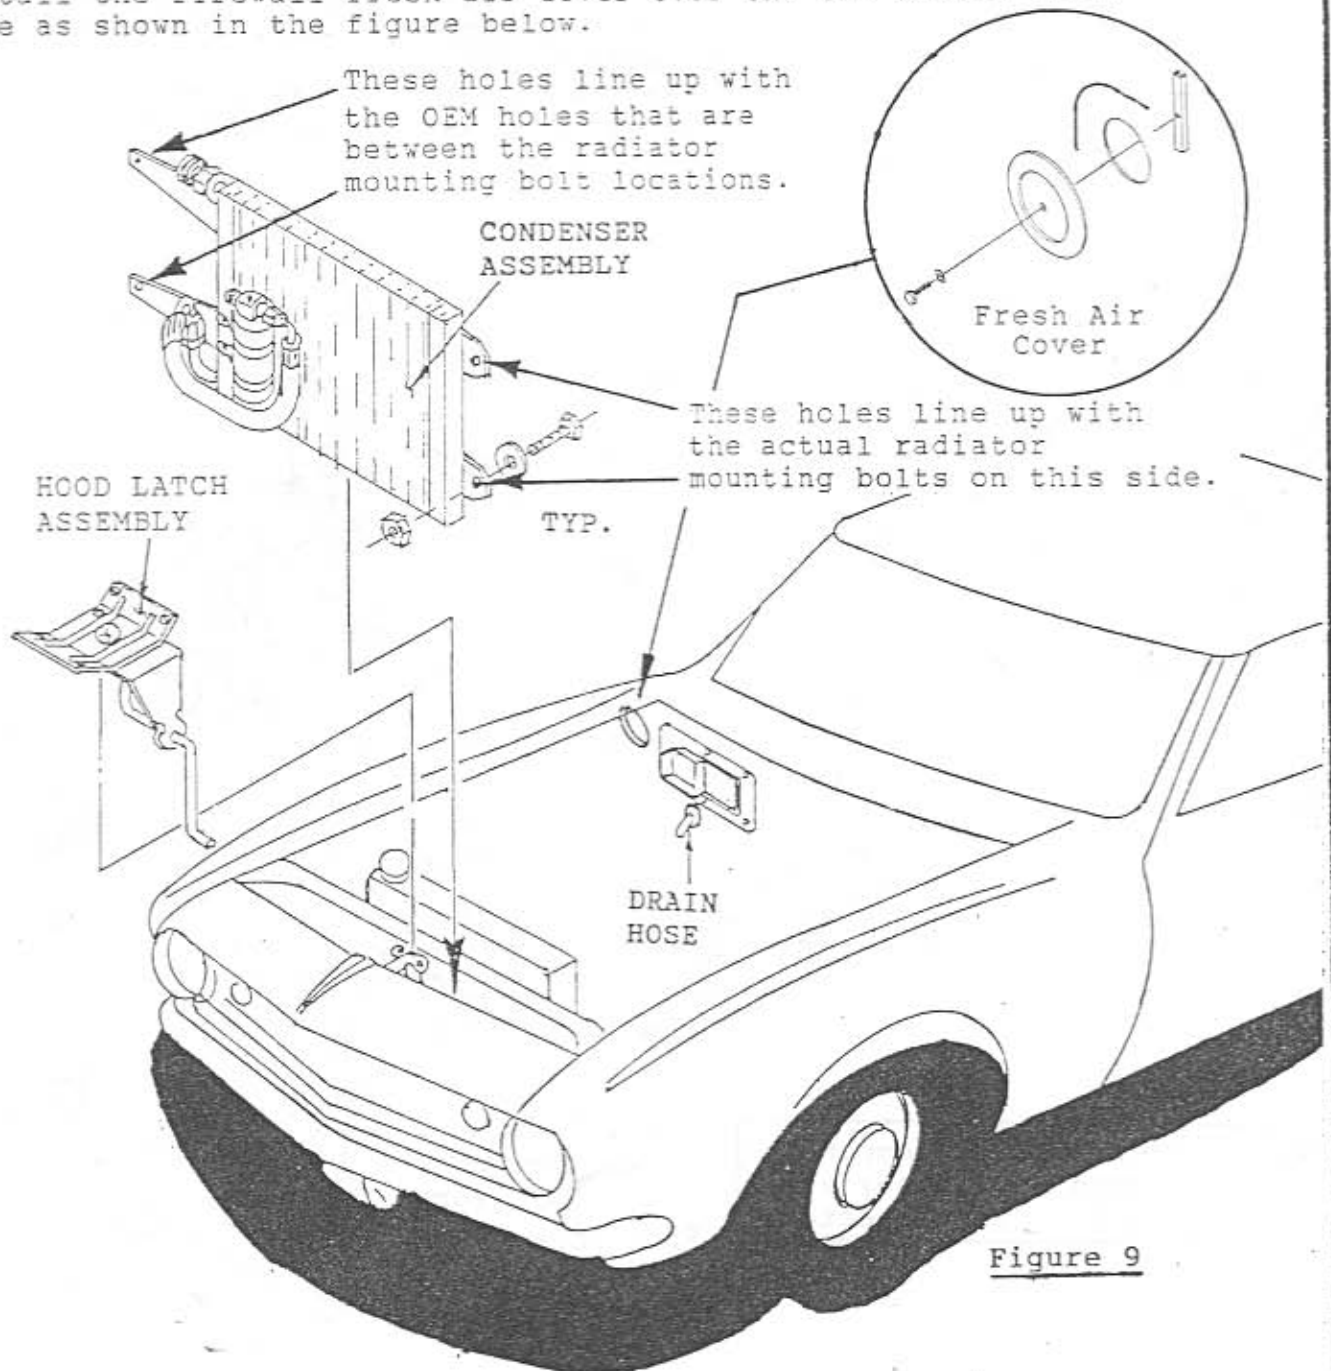

Figure 9
1. Remove hood latch assembly for installation of condenser as Figure 9 shows.